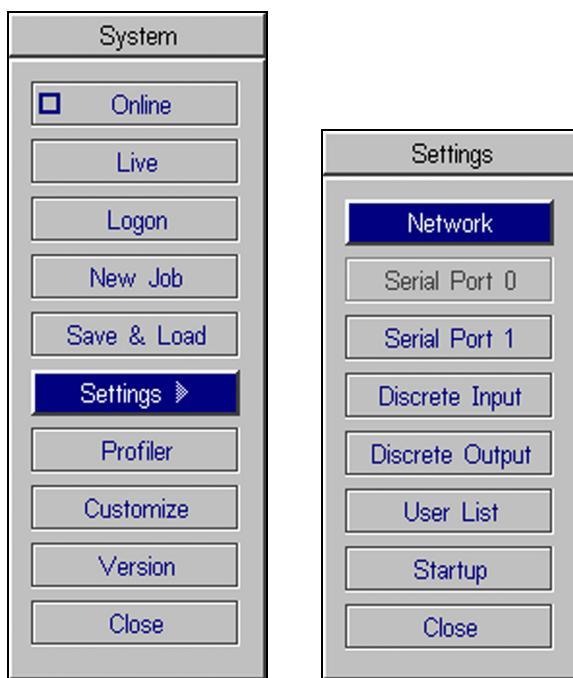

Figure 2-11: System and Settings Menus
2. From the In-Sight spreadsheet, open the System menu and select Settings (Figure 2-11).